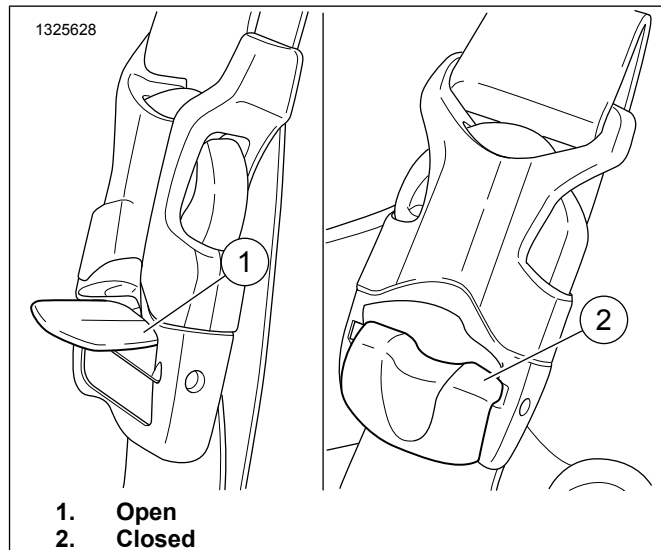

Figure 3. Open/Close Clasp
5. See Figure 3. Close clasp to secure strap tightness.